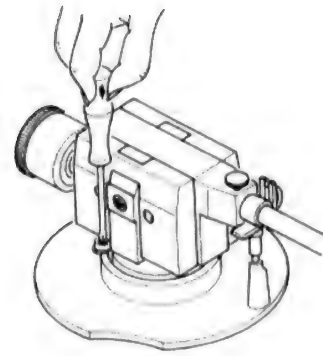

Fig. 19
2. Turning the adjustment screw clockwise causes the stylus to rise, while turning counterclockwise causes it to lower. The height from the stylus tip to the record surface is appropriate at about 6 mm. (See Fig. 19)